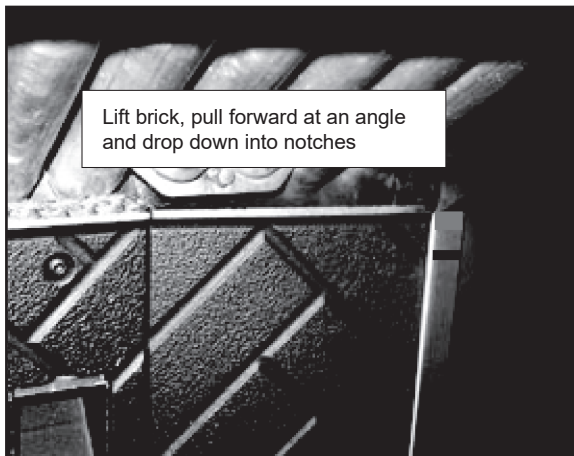

Figure 28.1
3. Lift slightly and pull the right edge of the brick forward until it stops and then drops down into both top and bottom notches of right bracket and locks into place (**Figures 28.1 and 28.2**).